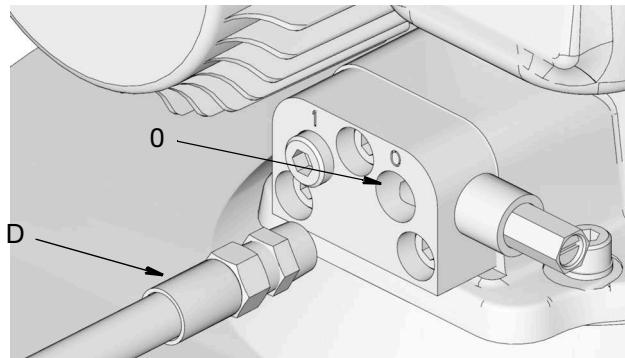

FIG. 64: Lubricant Outlet Connection
- Disconnect Timer/Controller (F) (user supplied, if used).
- Disconnect High Pressure Lubricant Supply Line (D) to the Lubricant Output Connection (O) (FIG. 64) on the Vent Valve or Manifold.